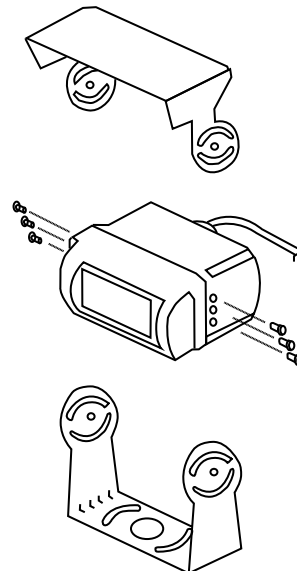

FIGURE 3: CAMERA MOUNTING (LEFT). TYPICAL MONITOR IMAGE FROM A PROPERLY INSTALLED CAMERA (RIGHT).
- Select a high and centered location at the rear of the vehicle and close to the rear marker lights to mount the STSC101 camera. This installation location will ensure that the image transmitted by the camera will show the rear bumper and area behind the vehicle. See FIGURE 1 and FIGURE 3.
- Screw the camera mounting bracket securely into place using the supplied sheet metal screws. Insert the wire grommet into the camera cable hole and carefully pass the camera wire through. See FIGURE 1. Install the camera and camera sunshade onto the camera mounting bracket. Angle the camera such as indicated in FIGURE 3.